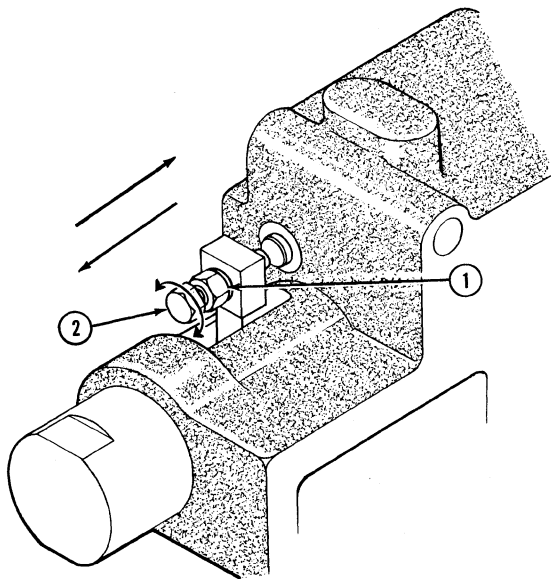

Figure 35
Loosen the locknut, Figure 35, and adjust the bolt so the control lever has 10 mm (3/8 inch) play in the neutral position with the engine running 1000-1500 rpm.
NOTE: Extending the adjusting bolt (2), Figure 35, increases play. Shortening the bolt decreases play.